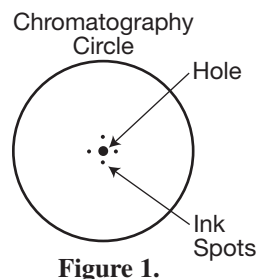

Figure 1.
2. Using a black (or dark-colored) water-soluble marker, draw four to six small dots in a circular or random pattern around the center hole in the filter paper. (*Note:* You may wish to use two different markers and alternate the dots in a circle around the center hole.) See Figure 1.